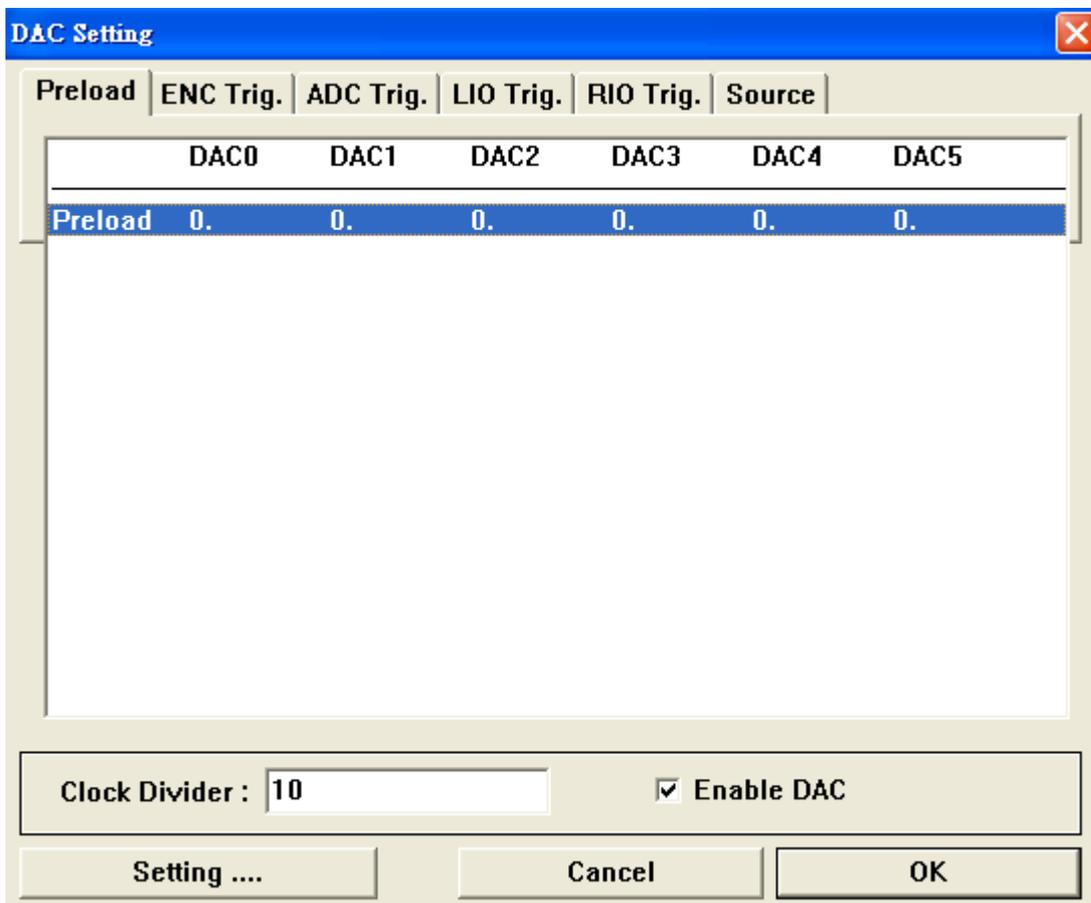

Figure 4-9.9
(8) Set DAC clock divider (as shown in Figure 4-9.9)
(9) Set DAC enable (as shown in Figure 4-9.9)